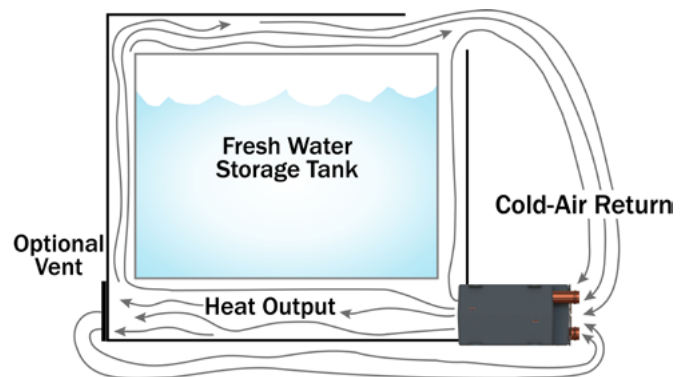

Figure 20
- If a heat exchanger is kept in the freshwater storage bay, the last heat exchanger in the coolant loop should be used (see Figure 20).